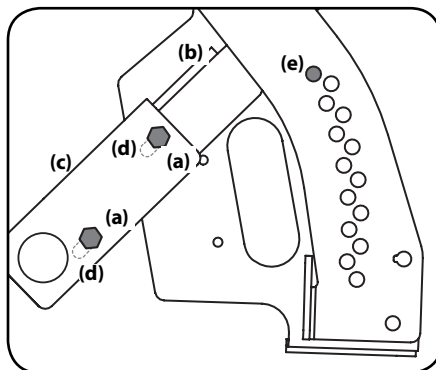

Figure 4-12
1. Loosen -- but do not remove -- the two hex screws (a) and flange lock nuts (a) that secure the handle (b) to right lift arm (c). See Figure 4-12. The handle has two slotted holes (d) to allow for the adjustment.